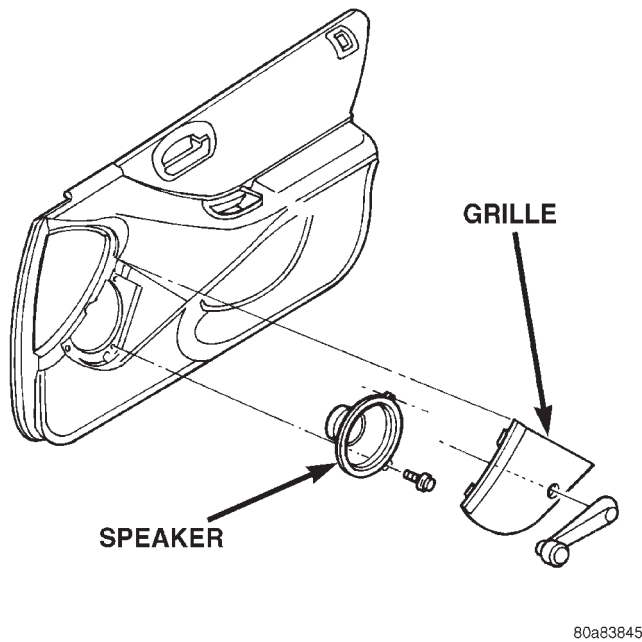

Fig. 3 Door Mounted Speaker
(1) Remove window crank handle if equipped. Carefully, pry speaker grille away from door trim panel (Fig. 3).
(2) Remove three speaker retaining screws.
(3) Pull speaker away from door and disconnect wiring.